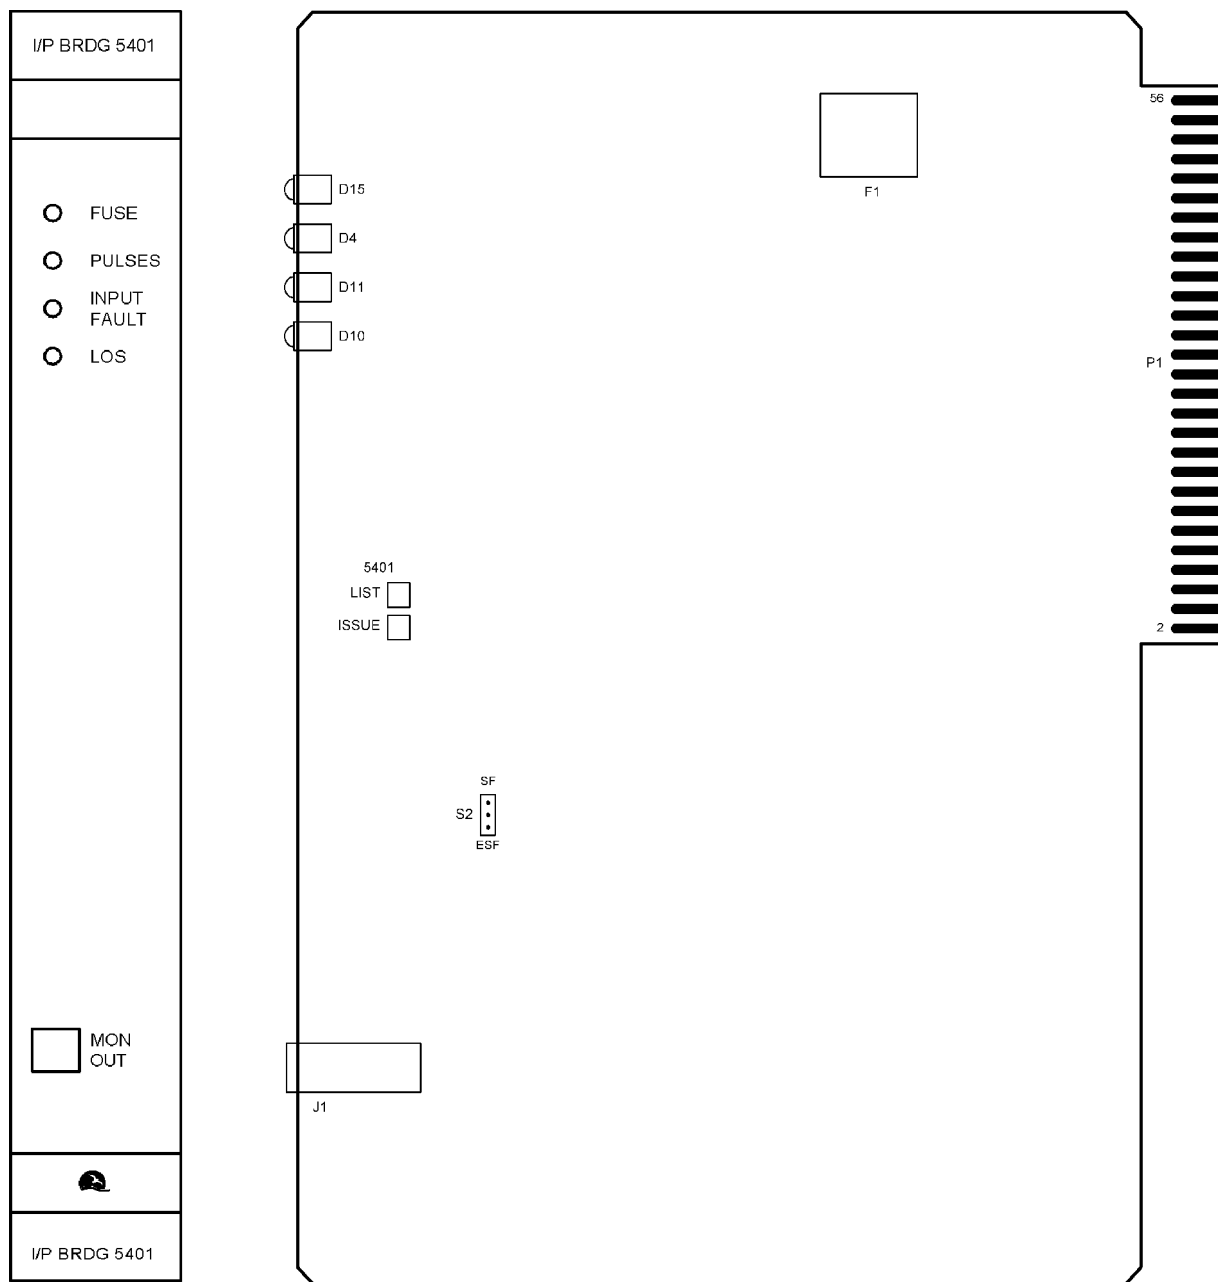

Figure 3-1. Model 5401 DS1 Bridging Input Card with Front Panel
3.311 For switch location and front panel of the Model 5401, refer to Figure 3-1.